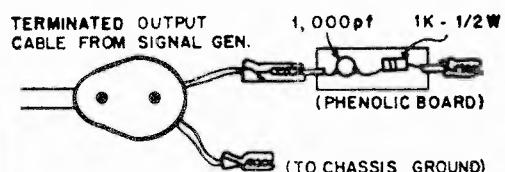

FIG. 5 - GENERATOR COUPLING NETWORK
8. Disconnect generator output leads from grid of the first I-F amplifier and couple them to the mixer tube (V-13) of the VHF tuner, using the signal injection shim described below. If this is impractical, connect the generator output leads to the I-F mixer point on the tuner, using the coupling network shown in Fig. 5